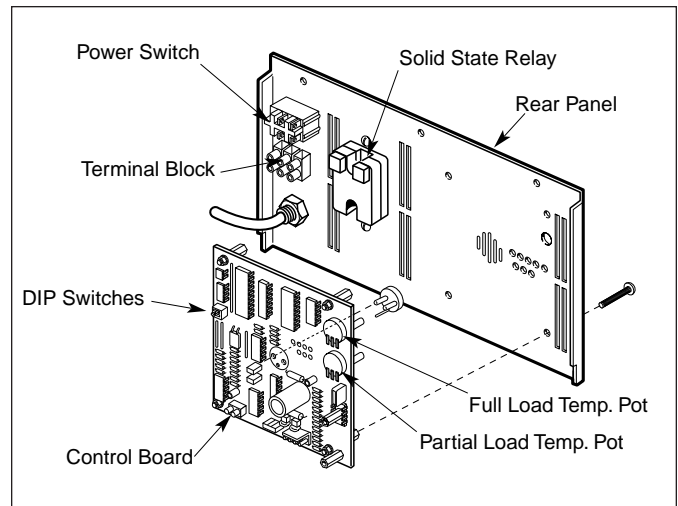

Figure 3. Adjusting Timer on Rear Panel Assembly
10. If the times are correct, calibration is complete. If the times are not correct, adjust the timers located at the rear of the toaster (Figure 3)